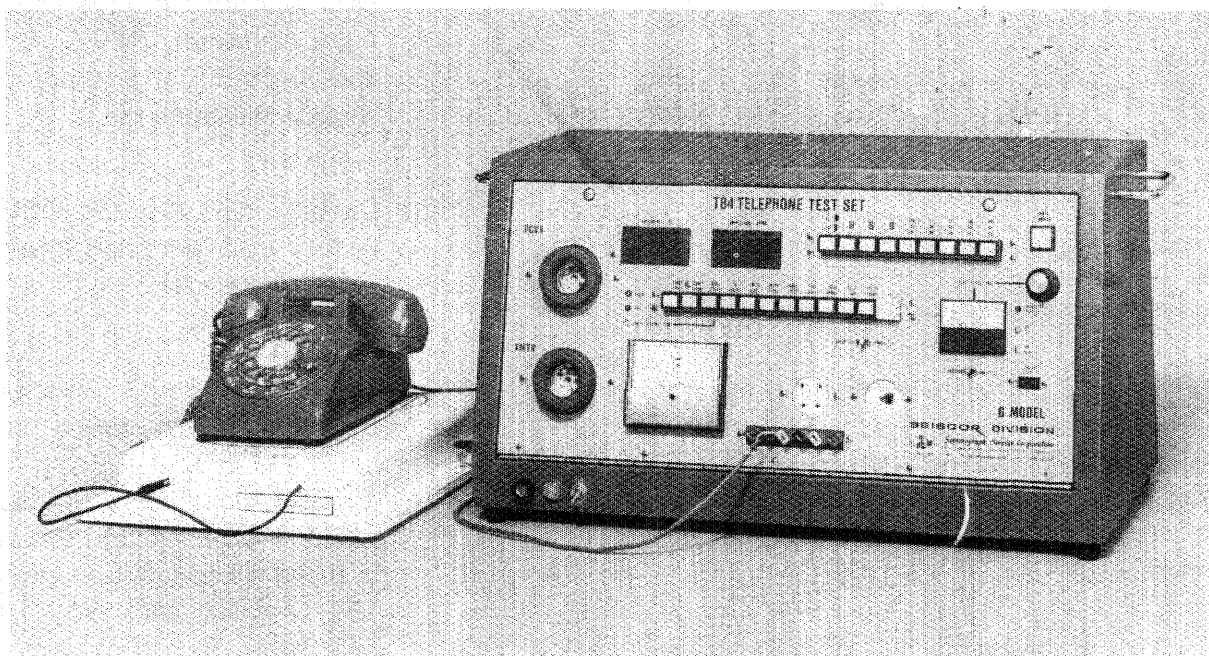

Fig. 3. Typical Test Setup Using a T84 G Model Telephone Test Set and a T6 Breakdown Base
4.02 Test setup procedures for telephone equipment that can be tested by the T84 series test sets and accessory equipment are detailed in the steps which follow. Fig. 3 depicts a typical test setup using a T84 G Model Test Set and a T6 Breakdown Base.